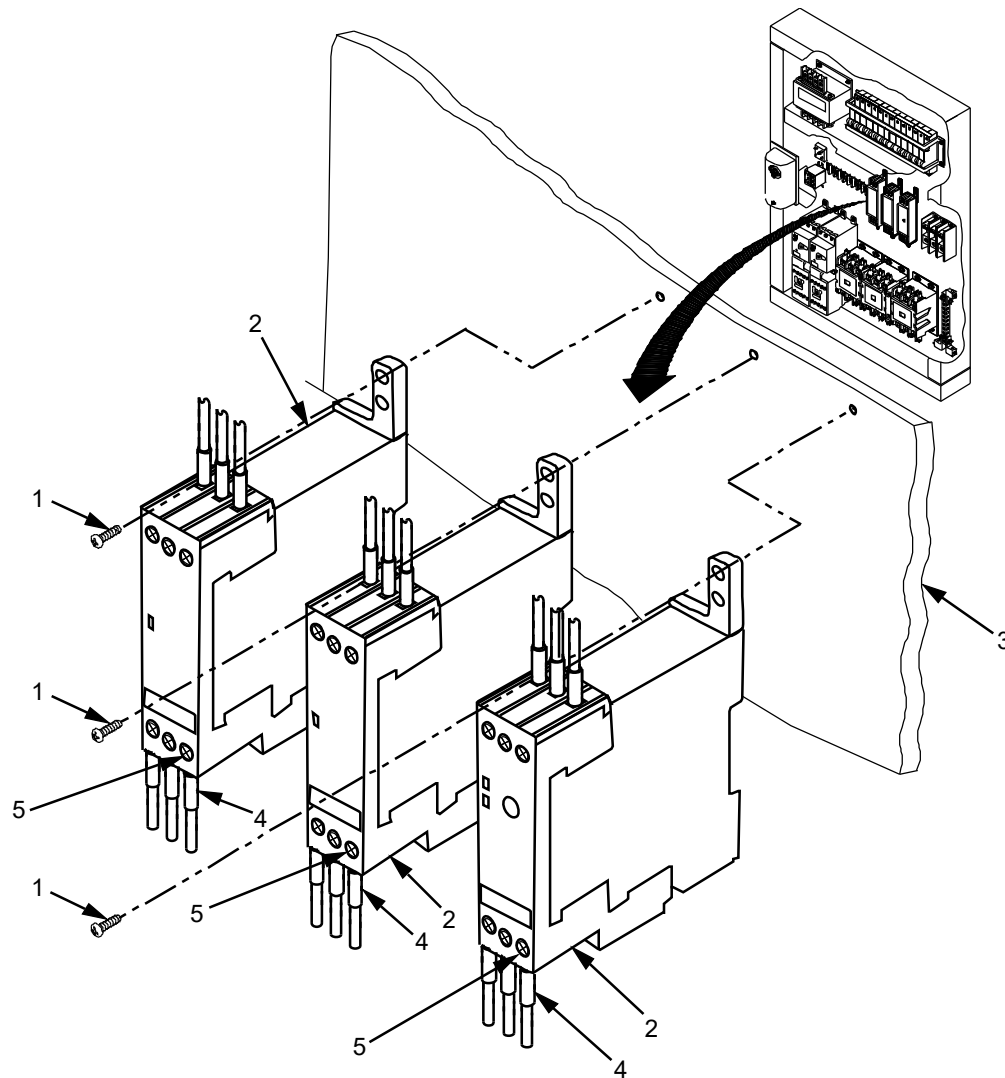

Figure 1. Relay Replace.
3. Verify that all electrical wires (Figure 1, Item 4) connected to relay being replaced are properly identified.
4. Loosen but do not remove terminal screws (Figure 1, Item 5) securing electrical wires (Figure 1, Item 4) to relay (Figure 1, Item 2). Remove electrical wires (Figure 1, Item 4) from relay (Figure 1, Item 2).
5. Remove and retain two screws (Figure 1, Item 1) that secure relay (Figure 1, Item 2) to control panel (Figure 1, Item 3) and remove relay (Figure 1, Item 2).
1. Install relay (Figure 1, Item 2) onto control panel (Figure 1, Item 3) and secure using two screws (Figure 1, Item 1).
2. Inspect all electrical wires (Figure 1, Item 4) being connected. Ensure no physical damage is present. If necessary, repair or replace.
3. Loosen but do not remove terminal screws (Figure 1, Item 5) on relay (Figure 1, Item 2). Install all electrical wires (Figure 1, Item 4) and tighten terminal screws (Figure 1, Item 5).